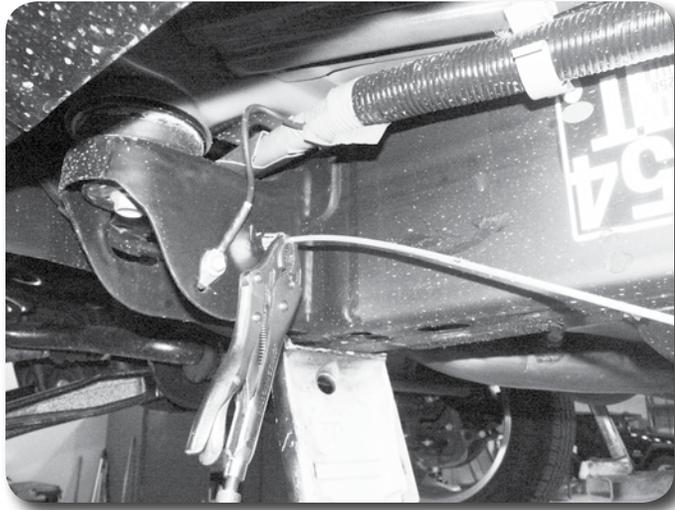

Figure 12
17. Pull down on the parking brake cable that runs down the driver's side frame rail. Clamp the cable where it runs through the front body mount so it stays slack Figure 12.